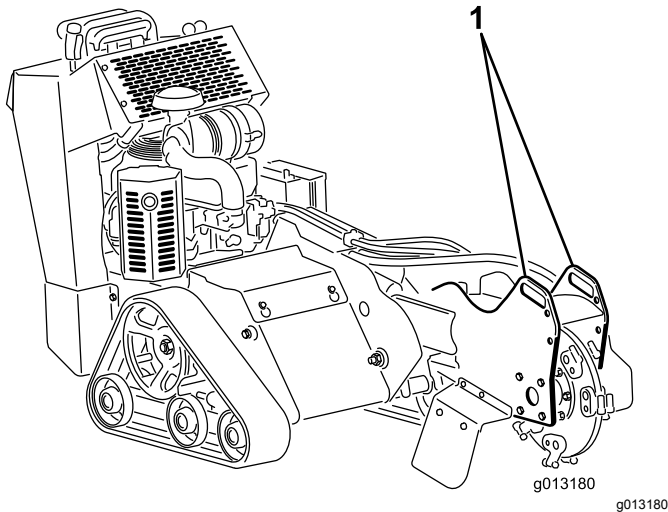
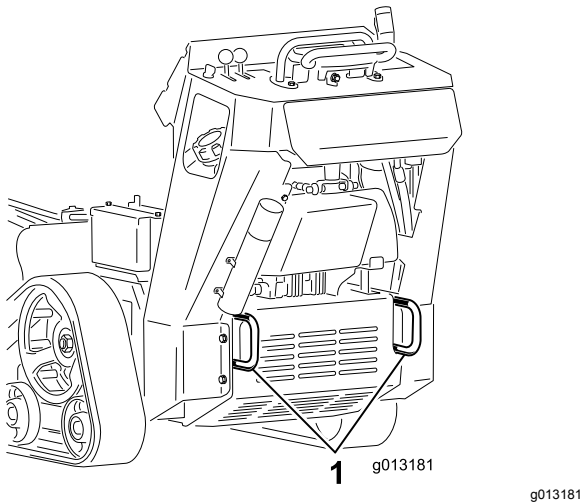

Figure 19
Figure 20
3. Secure the machine to a trailer with chains or straps using the tie-down/lift loops at the front and rear of the machine (Figure 19 and Figure
You can lift the machine using the tie-down/lift loops as lift points (Figure 19 and Figure 20).